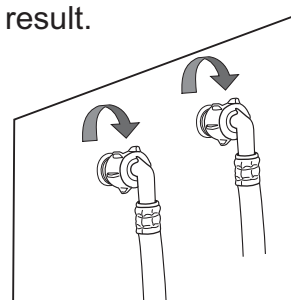

Figure 3
4. Attach the hose connected with hot water faucet to the HOT water inlet valve. Attach the hose connected with cold water faucet to the COLD water valve. ( As figure 3)